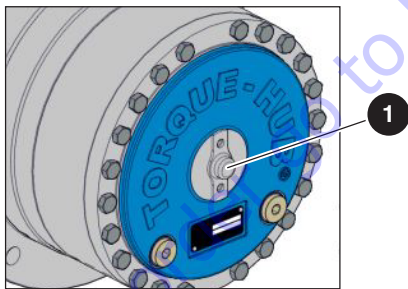

Figure 22 Disengage cap
3. Locate disengage cap (Figure 22 - item 1).